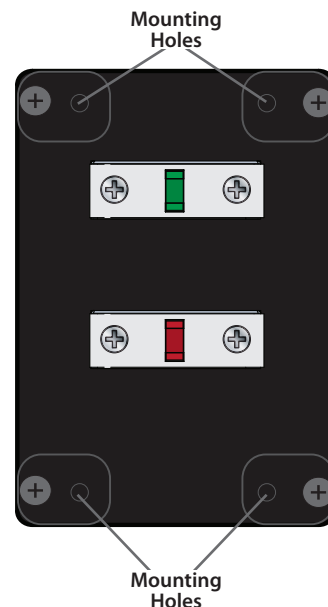

FIG. 18b
- Place a mark through the four mounting holes [FIG 18b].